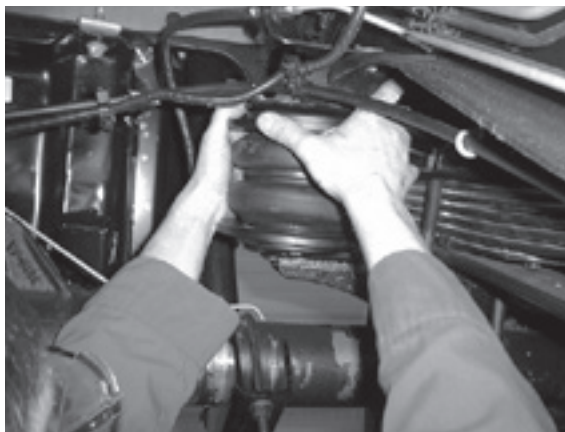

fig. 6
1. The air spring unit assembled in the previous step will install on the driver-side. Set the unit in place by inserting the carriage bolt up through the jounce bumper hole (Fig. 6). Make sure the emergency brake cable is not caught between the upper bracket and the frame. The bracket should fit flush against the outside of the frame. The tab on the lower bracket straddles the jounce bumper strike plate.